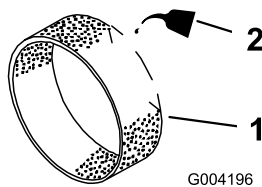

Figure 18
- Put one or two ounces of oil on the pre-filter (Figure 18).